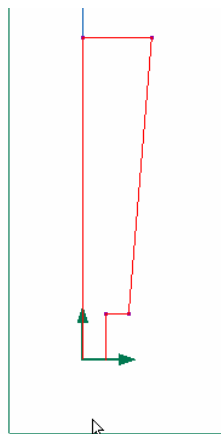

fig 2
4. Draw the handle profile starting at the origin. (fig 2)